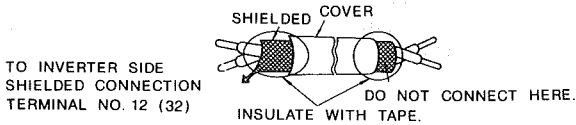

Fig. 3 Preparation of Shielded Cable Ends
- (1) Separate control signal wiring (terminal TC1 to TC11) of PDI08 from main circuit wiring or other power lines.
- (2) To prevent malfunction caused by noise, use shielded cable for control signal wiring and prepare its terminal ends as shown in Fig. 3. Wiring length must not exceed 50m.
- (3) Connect terminal ends of cable which is not used in shielded cables to 0V.